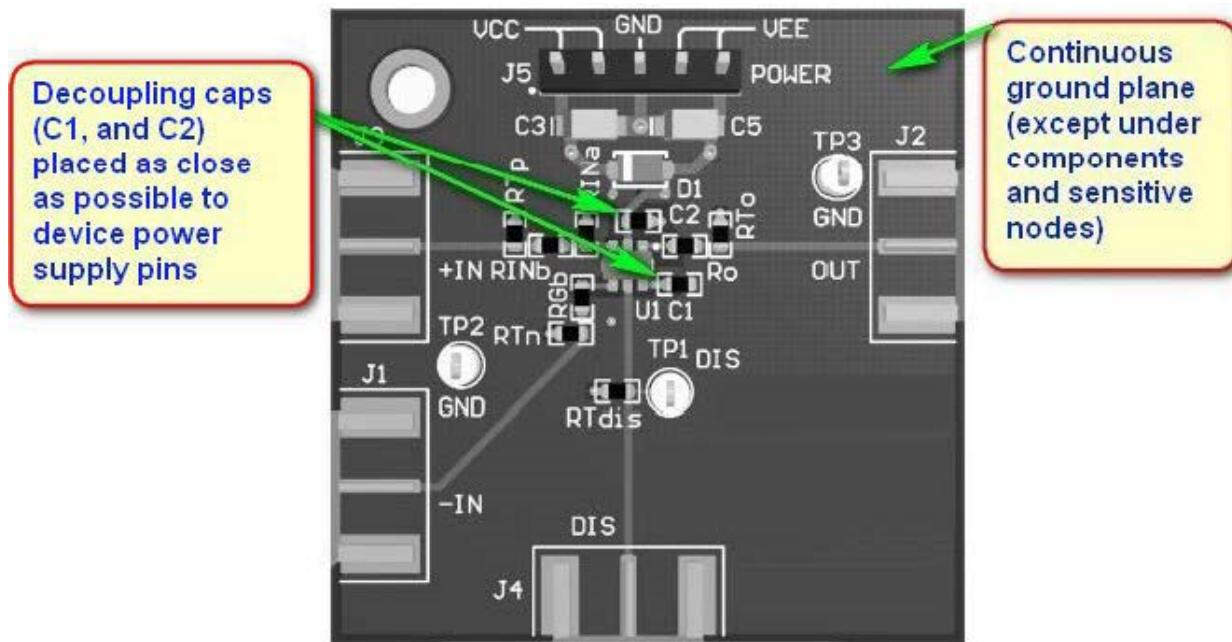
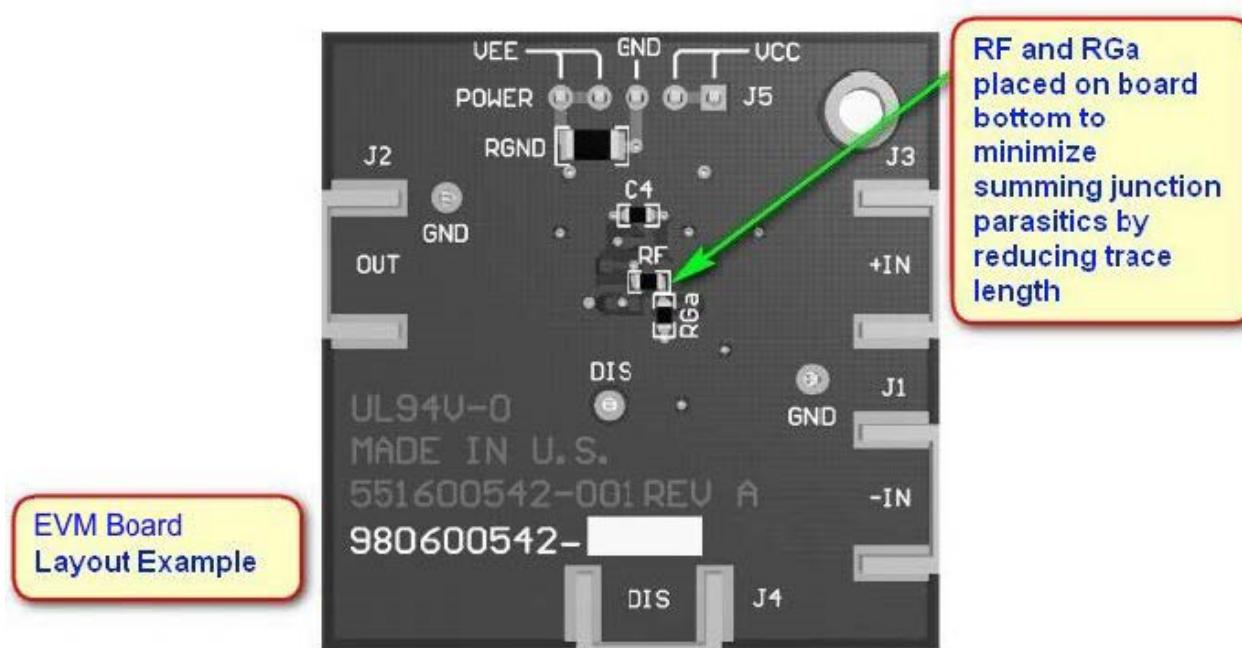

Figure 33. Evaluation Board Layer 1
Figure 34. Evaluation Board Layer 2
- Continuous ground planes are preferred for signal routing, as shown in Figure 33 and Figure 34, with matched impedance traces for longer runs. However, open up both ground and power planes around the capacitive sensitive input and output device pins.
- Use good, high-frequency decoupling capacitors ($0.1 \mu F$) on the ground plane at the device power pins as shown in Figure 33. Higher value capacitors ($2.2 \mu F$) are required, but may be placed further from the device power pins and shared among devices. For best high-frequency decoupling, consider X2Y supply-decoupling capacitors that offer a much higher self-resonance frequency over standard capacitors.
- The input summing junction is very sensitive to parasitic capacitance. Connect any R_f , and R_g elements into the summing junction with minimal trace length to the device pin side of the resistor, as shown in Figure 34. The other side of these elements can have more trace length if needed to the source or to ground.